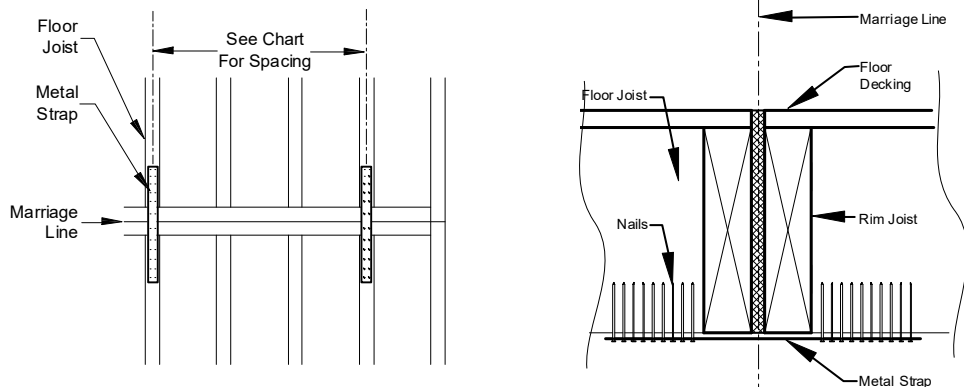

Figure 31. Metal strapping for Wind Zones II and III
- Optional - In Wind Zones II and III, fasten additional metal straps of minimum 26 gauge, 1-1/2" wide galvanized steel spaced per **Table 14** and fastened per **Table 15** to the underside of the floor joists (**Figure 31**). Select a strap length sufficient to hold the required fasteners.